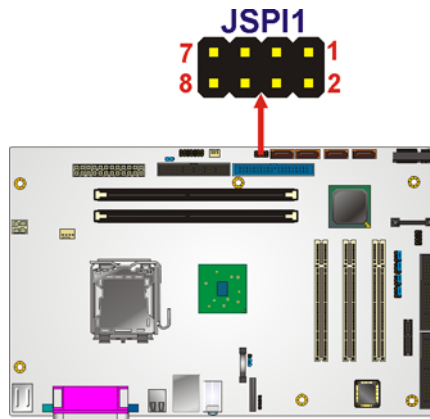

Figure 4-15: SPI Flash Connector
- CN Location:** See **Figure 4-15**